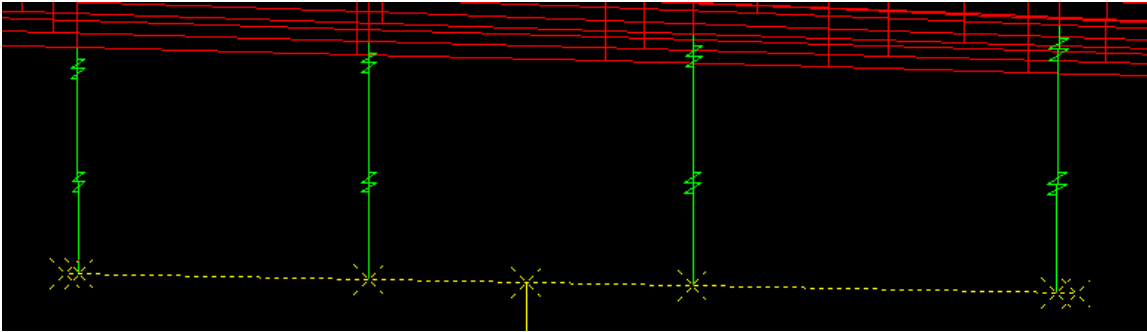

Figure 2 - Selected frame element and joints
- Select the frame element which represents the bent cap, and select all joints located on this element, as shown in Figure 2: